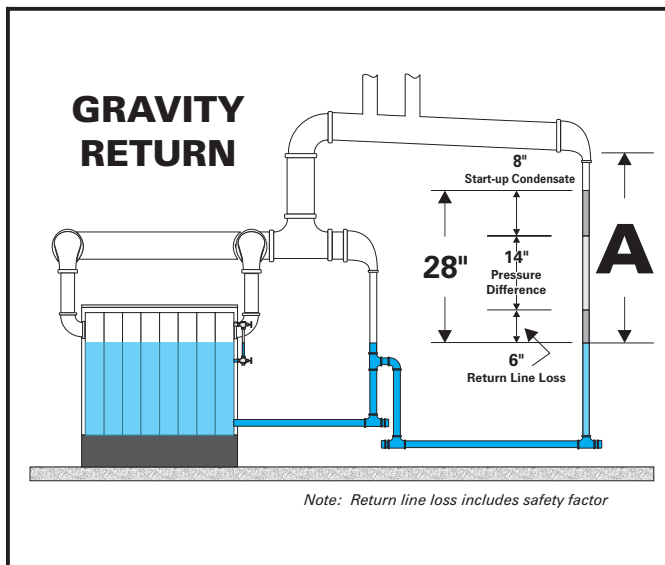

Figure 1: Gravity Return – Dimension A
3. **Gravity Return System** – condensate returns to the boiler only due to gravity flow. A gravity return system works like a U-tube manometer. The pressure at the boiler is higher than at the end of the steam main. And the condensate loses pressure to friction as it flows through the returns. So condensate backs up into the return riser(s) until the weight of the water column is enough to balance the pressure difference and push the condensate into the boiler. See Figure 1.
- Figure 1 shows how a gravity system works. The 28 inch dimension for the back-up of water in the returns allows for a system steam pressure loss of $\frac{1}{2}$ psig. Make sure to add additional height allowance if the system pressure drop is more than $\frac{1}{2}$ psig.